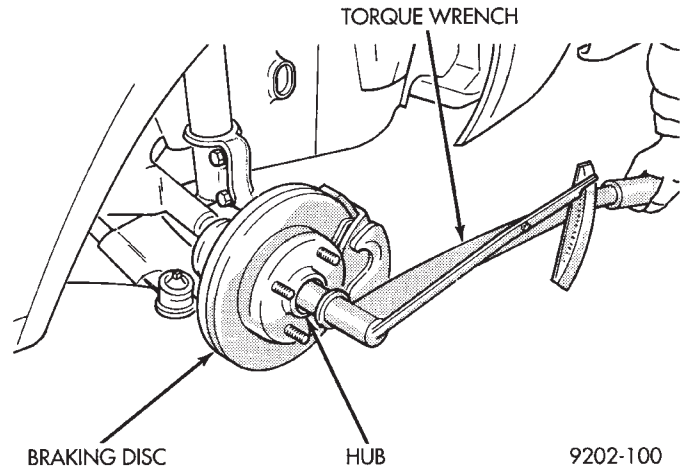

Fig. 23 Torquing Front Hub Nut
(14) With vehicle brakes applied to keep braking disc from turning, tighten hub nut to 244 N·m (180 ft. lbs.) (Fig. 23).